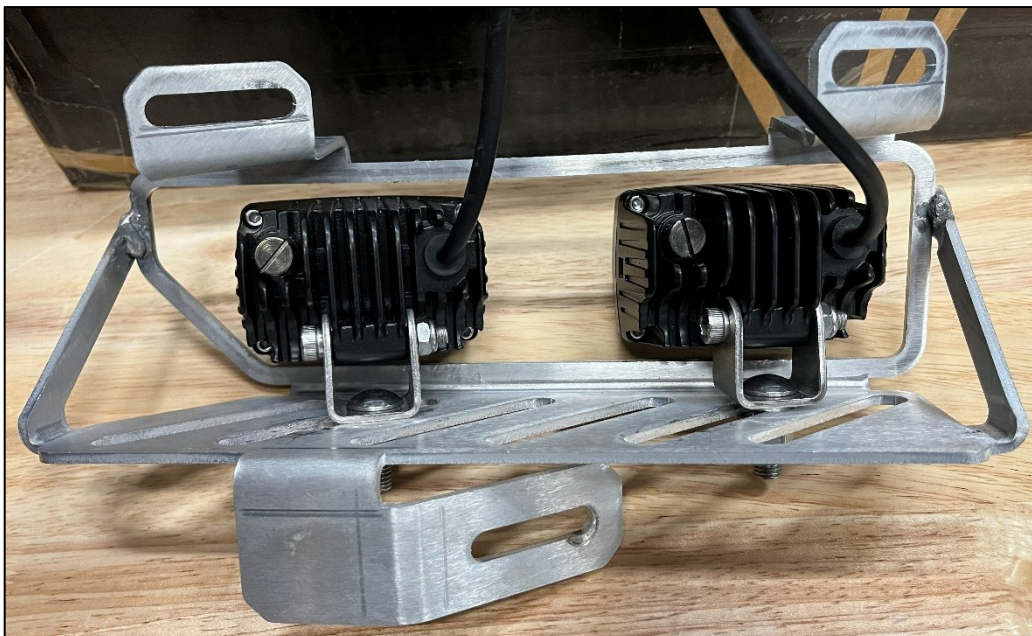

Figure 3
6. Attach the Fog Lights of your choice to the Fog Light Brackets. It is easier to install them to the Bracket prior to installing them into the Front Bumper. *Figure 3.*